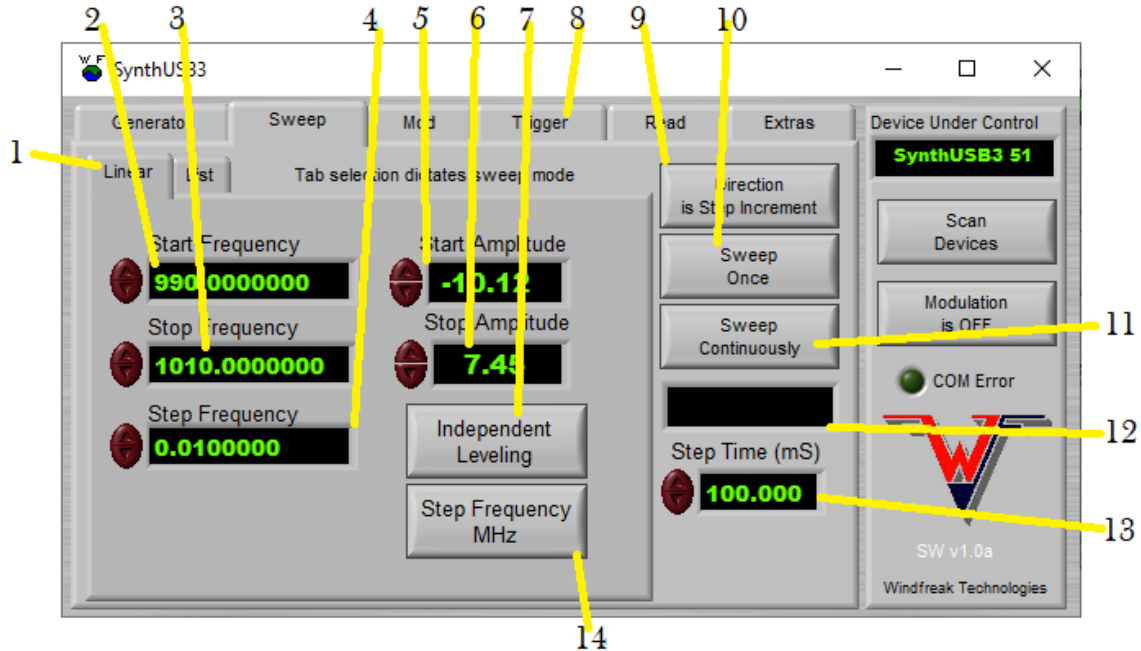

Figure 2 – Sweep Tab – Linear Sweep
The **Sweep Tab** (figure 2) is the place to set up sweeps. Sweeps can be either linear or come from a table.
1. **Sweep Type Tab.** Choose either Linear (which includes Percentage Sweep) or List. Linear is explained in Figure 2. The table can be a total of 500 unique frequencies and amplitudes. List sweep acts almost exactly like linear sweep except it steps in arbitrary ways defined by the user. Right click on the table or a
2. **Full Frequency Sweep.** Detailed in Figure 2 and Figure 3 Item 10.
3. **Single Sweep Step.** Detailed in Figure 2 and Figure 3 Item 10.